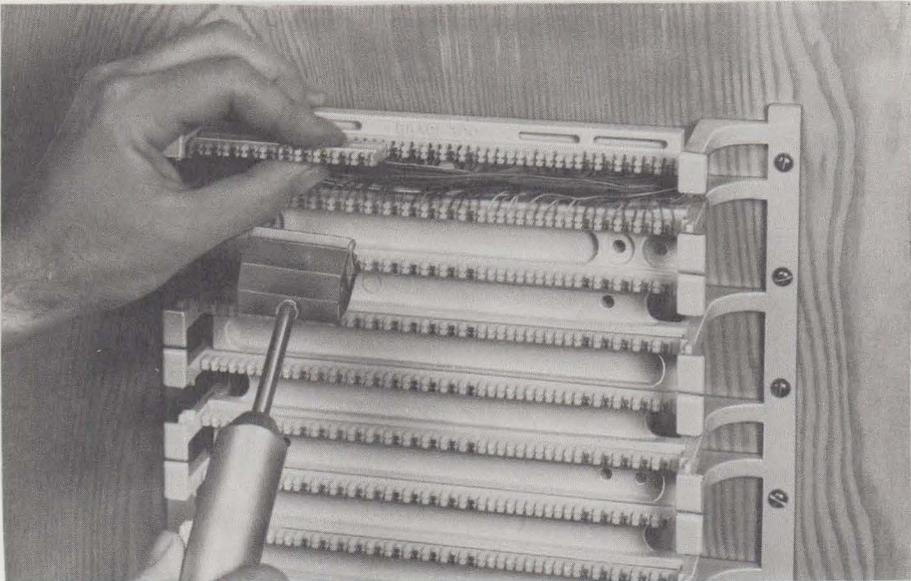

Fig. 20—Connecting Block Placed on Index Strip
3.16 The conductors are electrically terminated by placing an 88-type connecting block on the wiring block using the insertion tools. **Properly align connecting block in the index strip (Fig. 20), by hand, then seat the block with a straightforward motion (do not rock) using the 788B1 or 788J1 tool.**